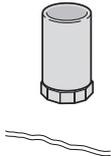

Fig.21a Step 1
Step 1 – Dress first layer of felt up to pipe (Fig.21a)